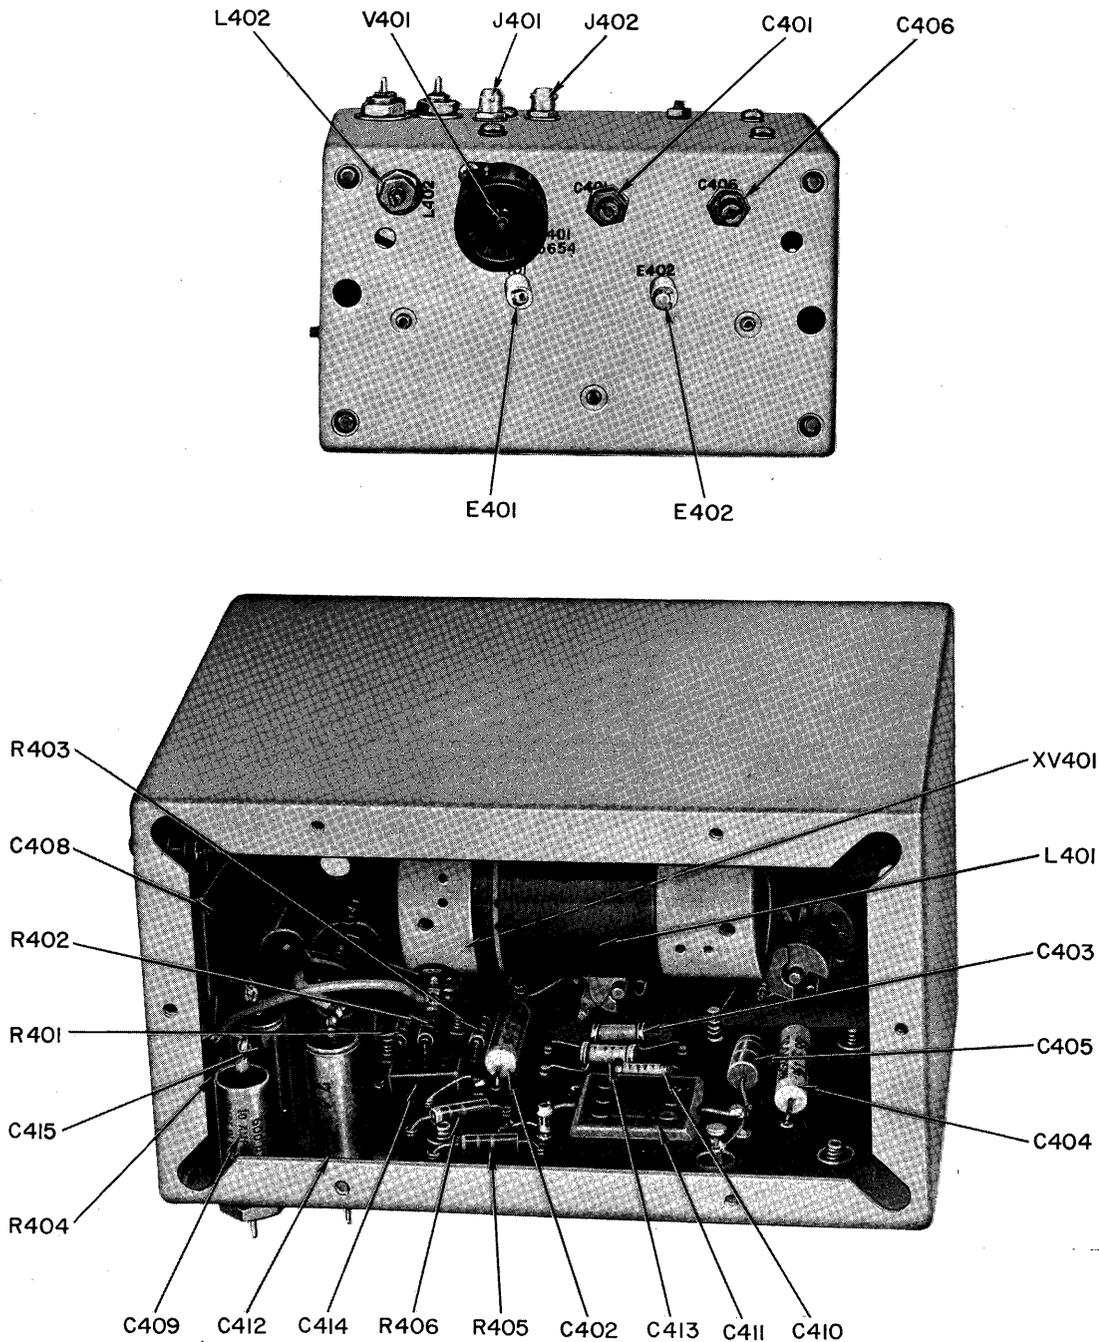

Figure 5-42. Interpolation Oscillator, Location of Parts
b. ACCESS.—The interpolation oscillator is located in the lower converter deck. For access to the top, index the upper deck; for access to the bottom, index the entire drawer. Figure 5-42 shows the location of parts.